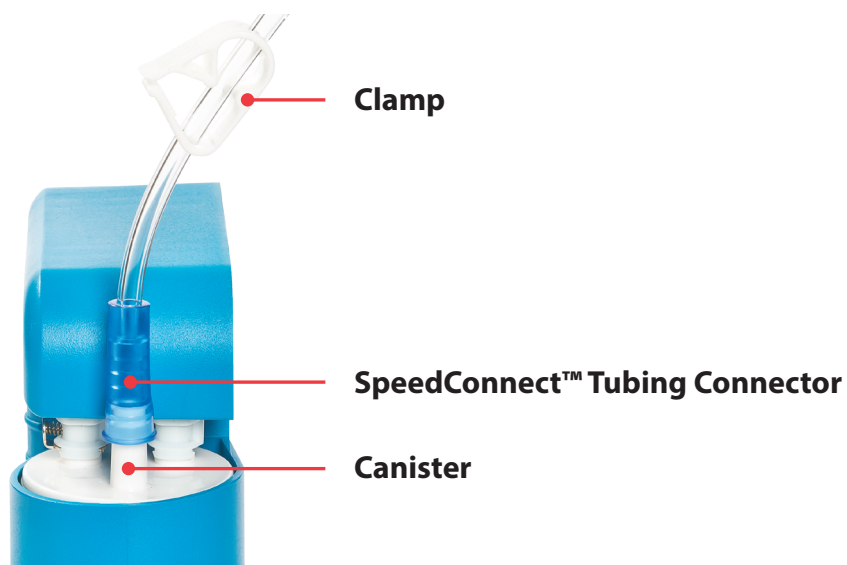

Figure 15
3. Connect the distal end of the SpeedConnect™ Tubing with the blue tapered connector to the patient port of the Canister (**Figure 15**). Gently twist and push the connector on just enough to secure and seal it. Also, make sure that the clamp on the SpeedConnect™ Tubing is open (**Figure 15**).